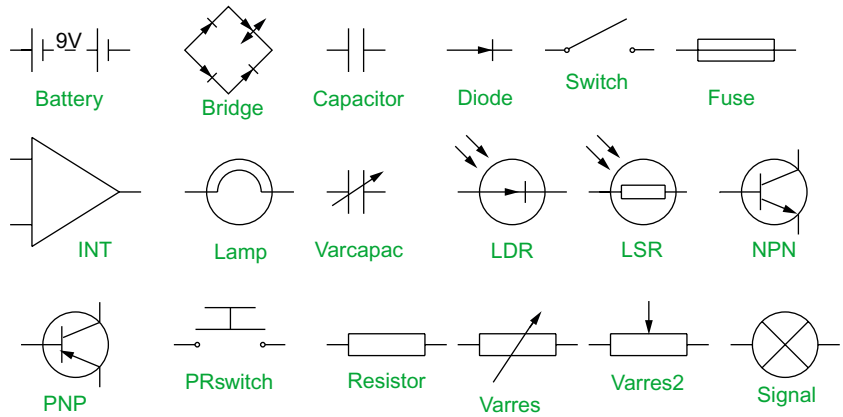

Fig. 9.16 Example using the DesignCenter – electric/electronic symbols
1. Construct the set of electric/electronic circuit symbols shown in Fig. 9.16 and make a series of blocks from each of the symbols.